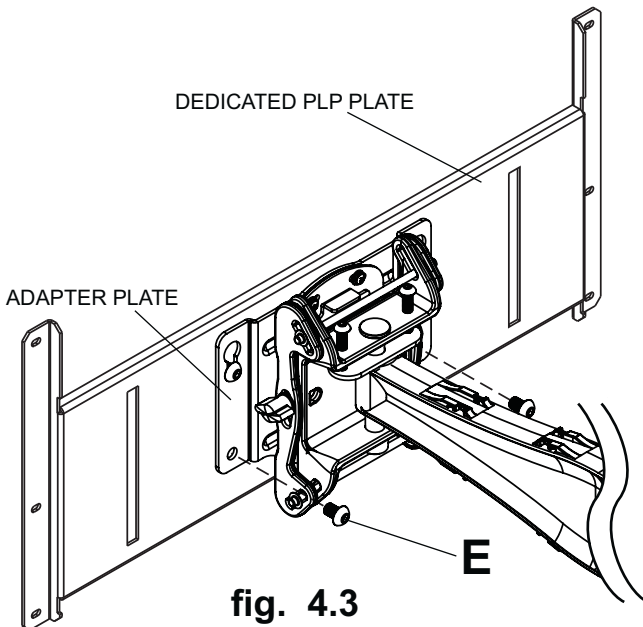

fig. 4.3
- 4-1** Insert two M10 x 15 mm screws (E) into bottom holes of adapter plate as shown in figure 4.3 or 4.4. Tighten all fasteners with 6 mm allen wrench (H).